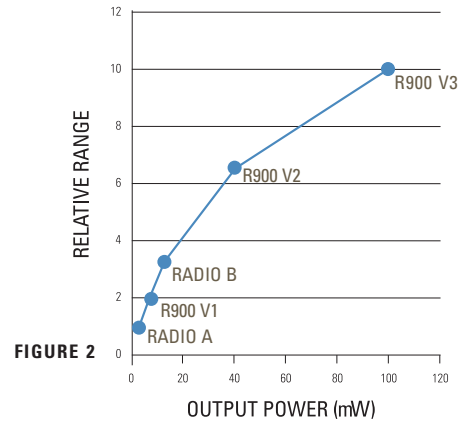

FIGURE 2
Output power of the transmitter is one of the key drivers of the range of the RF signal. The chart on page 5 (Figure 2) shows this relationship. Along with the various versions of the R900, we have also plotted (Radio A) low power devices that operate in the FCC Part 15.249 category, as well as Radio B which is another radio with 10 mW output power. The chart is in relative terms with the range of the Radio A being one (1) and other devices are multiples of that range. We can see that the range of the R900 v3 is about 10 times the range of Radio A, so that in a given application where all other factors are the same, if Radio A provides range of 200 ft, the R900 v3 should have range of 2,000 ft. Similarly, the R900 v3 should have about three times the range of Radio B.